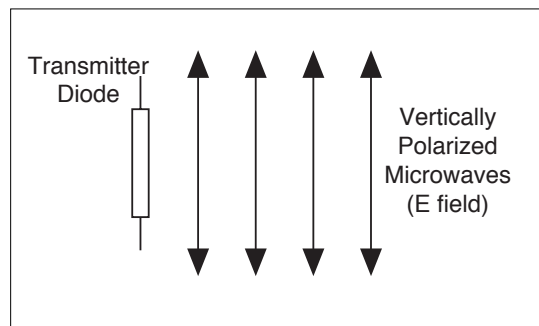
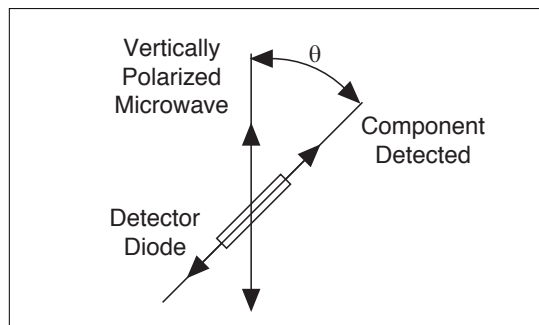

Figure 5.1 Vertical Polarization
Figure 5.2 Detecting Polarized Radiation
The microwave radiation from the Transmitter is **linearly polarized** along the Transmitter diode axis (i.e., as the radiation propagates through space, its electric field remains aligned with the axis of the diode). If the Transmitter diode were aligned vertically, the electric field of the transmitted wave would be vertically polarized, as shown in Figure 5.1. If the detector diode were at an angle θ to the Transmitter diode, as shown in Figure 5.2, it would only detect the component of the incident electric field that was aligned along its axis. In this experiment you will investigate the phenomenon of polarization and discover how a polarizer can be used to alter the polarization of microwave radiation.
- ① If the Receiver meter reading (M) were directly proportional to the electric field component (E) along its axis, the meter would read the relationship $M = M_0 \cos\theta$ (where θ is the angle between the detector and Transmitter diodes and M_0 is the meter reading when $\theta = 0$). (See Figure 5.2). Graph your data from step 2 of the experiment. On the same graph, plot the relationship $M_0 \cos\theta$. Compare the two graphs.
- ② The intensity of a linearly polarized electromagnetic wave is directly proportional to the square of the electric field (e.g., $I = kE^2$). If the Receiver's meter reading was directly proportional to the incident microwave's intensity, the meter would read the relationship $M = M_0 \cos^2\theta$. Plot this relationship on your graph from question 1. Based on your graphs, discuss the relationship between the meter reading of the Receiver and the polarization and magnitude of the incident microwave.
- ③ Based on your data from step 5, how does the Polarizer affect the incident microwave?
- ④ Can you explain the results of step 6 of the experiment. How can the insertion of an additional polarizer increase the signal level at the detector? (**HINT:** Construct a diagram like that shown in Figure 5.2 showing (1) the wave from the Transmitter; (2) the wave after it passes through the Polarizer; and (3) the component detected at the detector diode.)